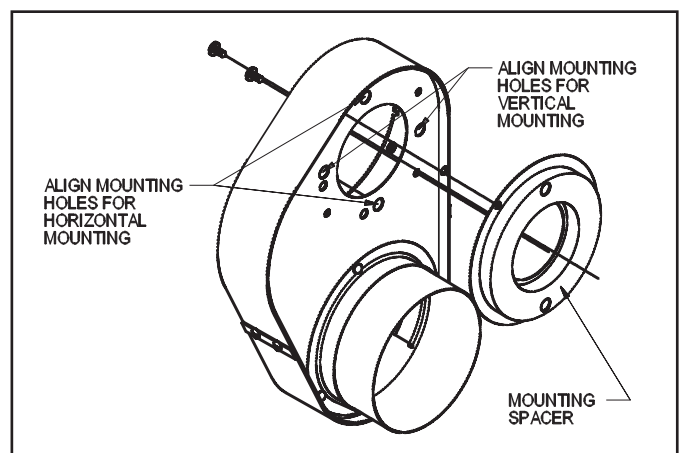

Figure 3
5. Install mounting spacer onto Air Boot™. (See Figure 3)
6. Place the Air Boot™ on the housing, through the large opening in the back side of the Air Boot™ (See Figure 3). Press the AirBoot™ into position and align roughly plumb with the burner. Align the Air Boot™ mounting holes with the burner oil pump mounting holes.